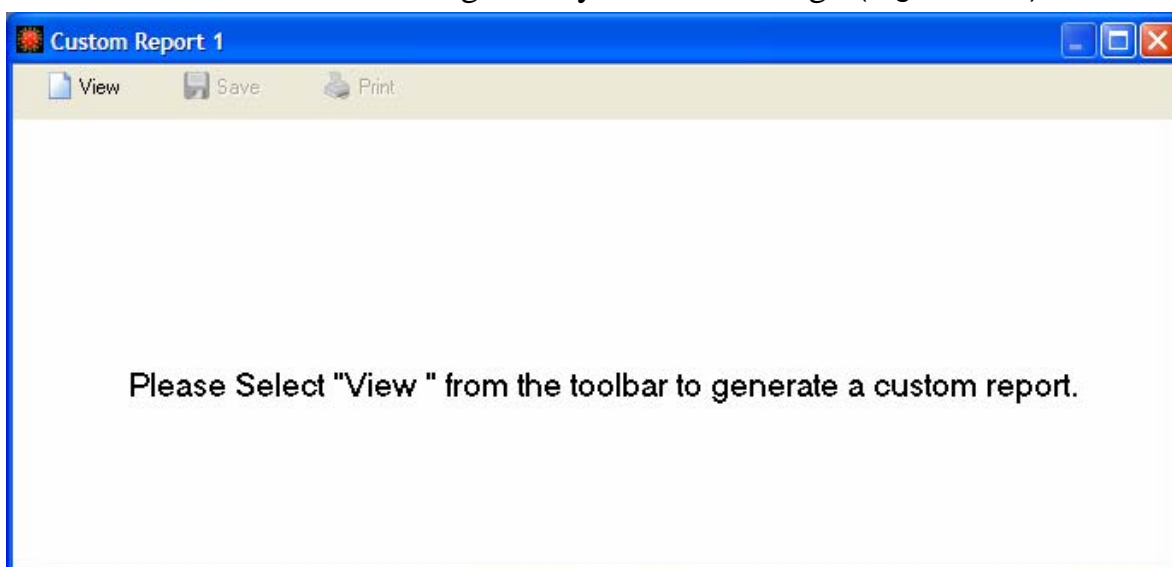

Figure 8.18 Custom report viewer
2. Click “View” button to bring out Style Sheet Manager(Figure 8.18).